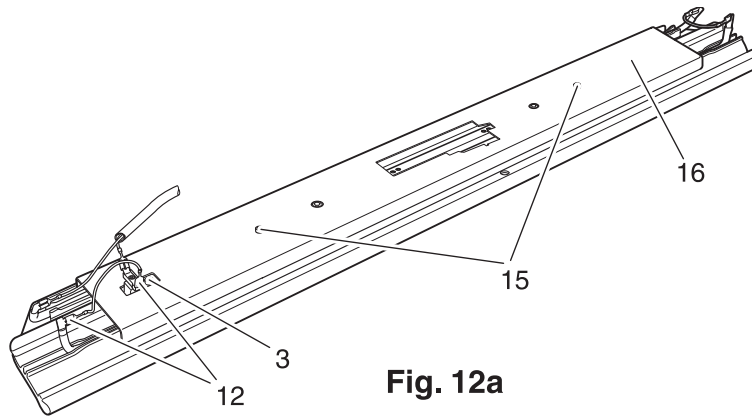

Fig. 12a
- Disconnect plugs 12 from the temperature-sensor fuse of the heating shoe (fig. 12a).